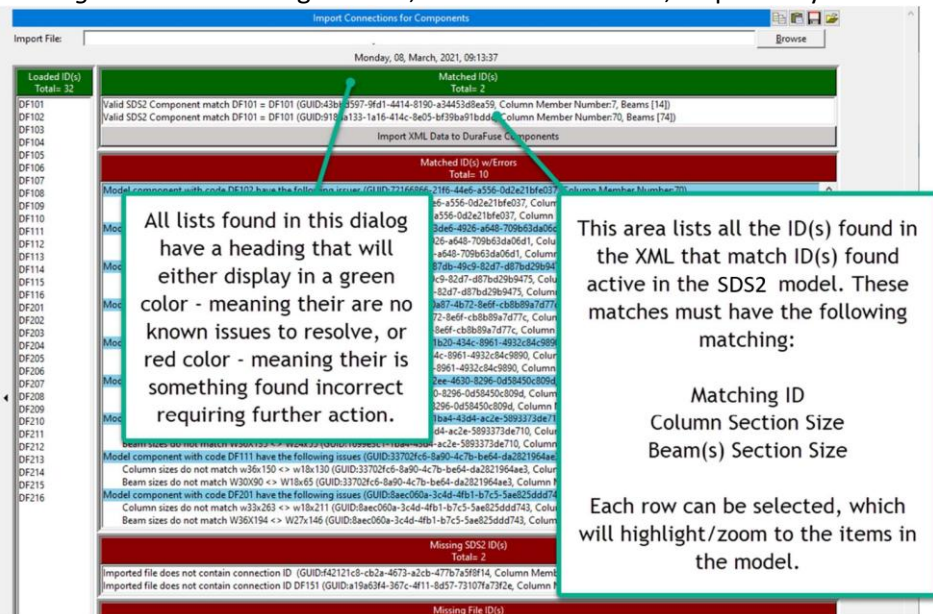
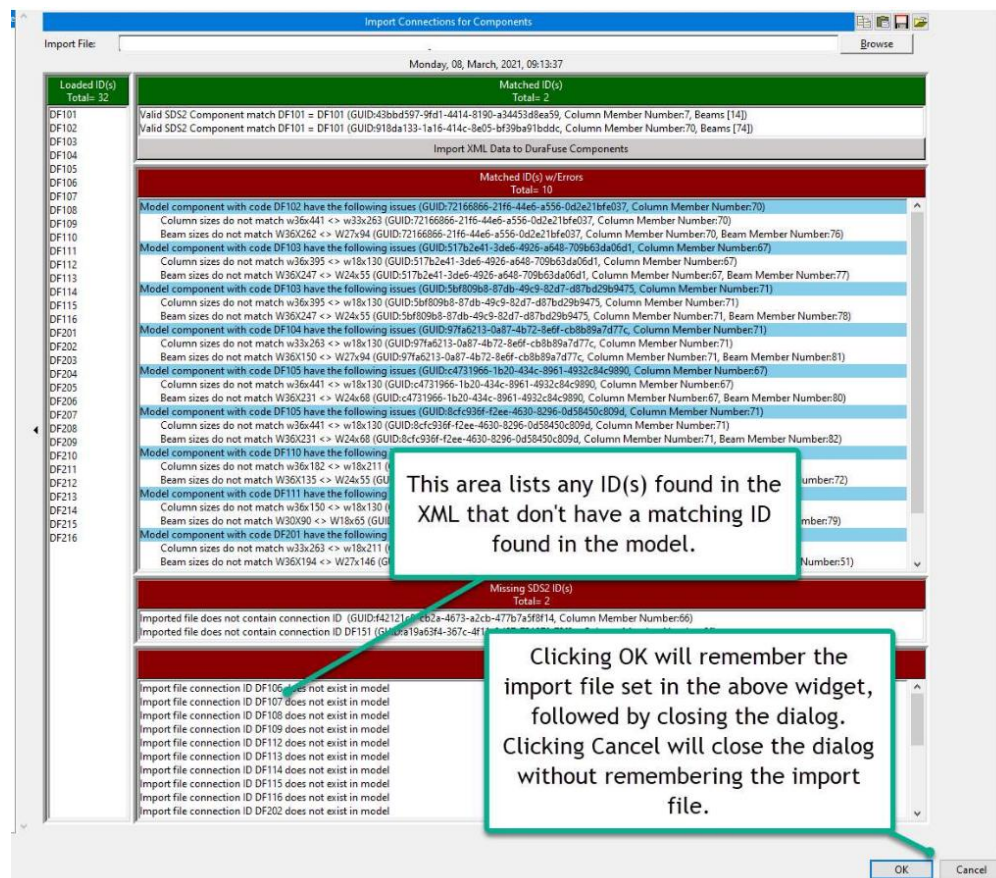

Figure 19. Matched Connection ID's
Figure 22. ID's In XML That Has Not Been Assigned in the Model
4. Once the import is complete, there are several sections in the dialog that will let the user know if the components were added successfully or if there are any errors. See Figure 19 through Figure 22 for an explanation each section of the window. Reported items: